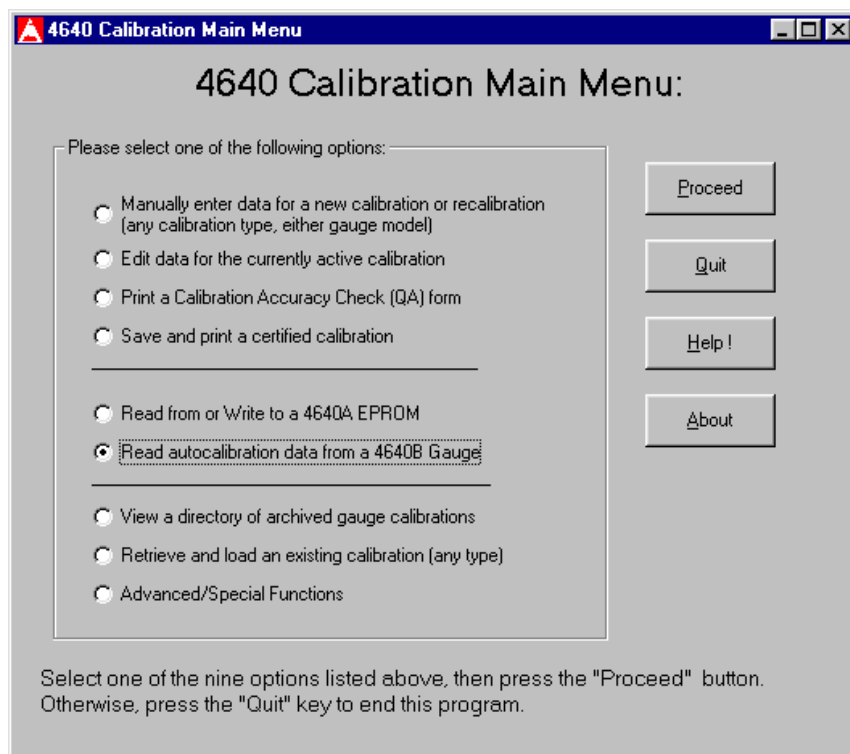

Figure 6–1. 4640 Calibration Main Menu
2. An introductory splash screen is displayed for approximately five seconds, followed by the **4640 Calibration Main Menu**, as shown in Figure 6–1.